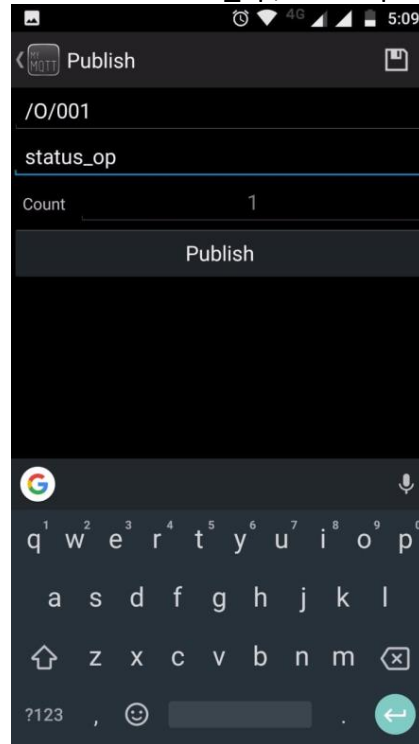

Figure 9: subscription Topic from system for Digital Output.
- xii. Clicking on Enter button after entering default IP address, you will be able to access its webpage as shown in Figure 9.